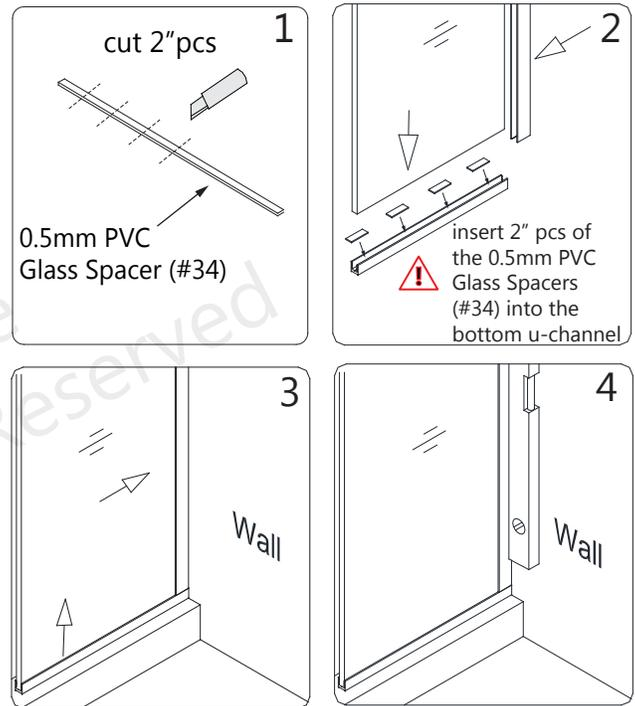

Fig 12
- Place the glass into the Bottom **U-Channel 2 (#29)** and slide the assembly tight to the wall. (**Fig 12**)